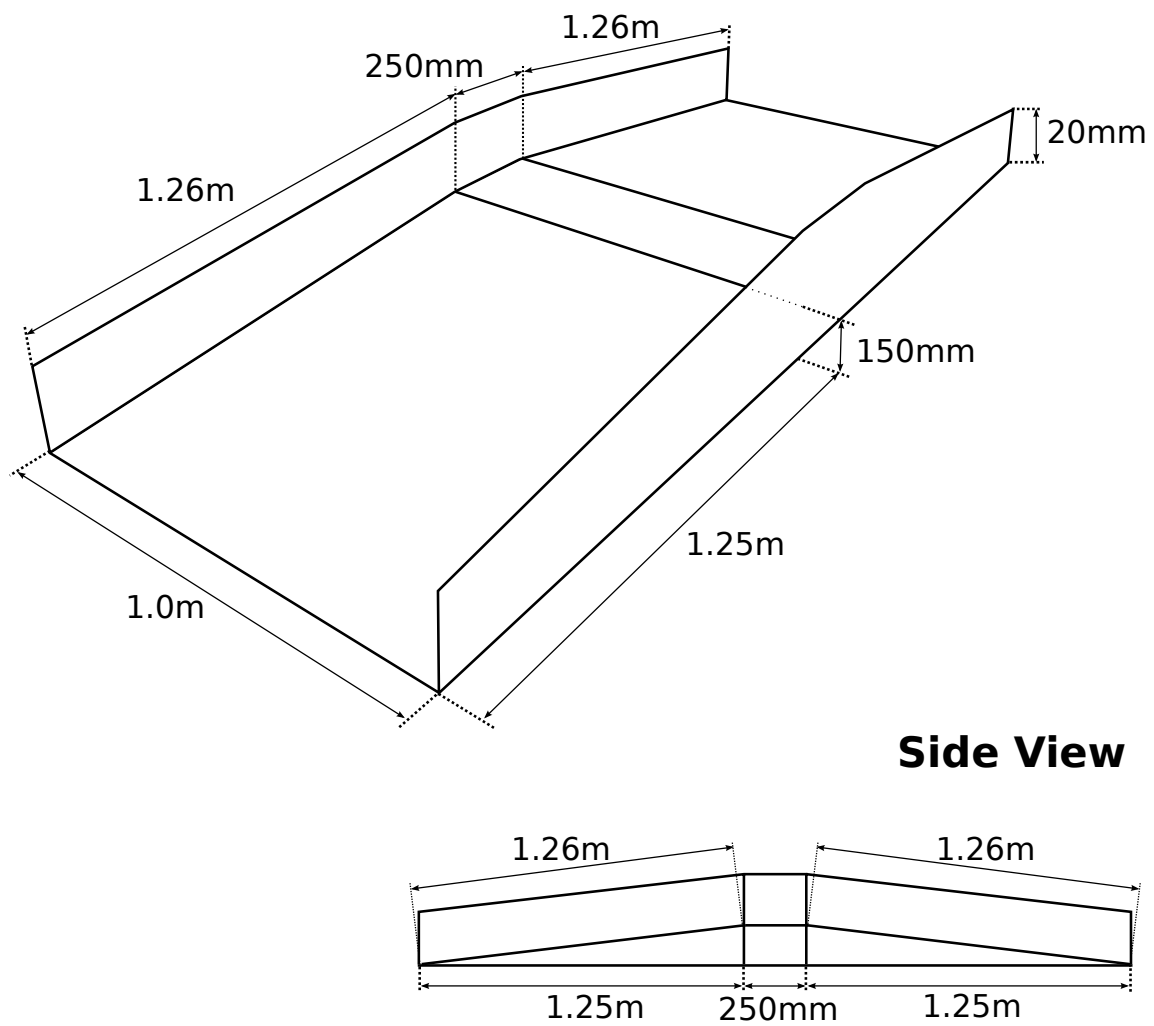

Figure 5: The ramp that cuts one of the corners of the arena, as seen in Figure 1.
- 3.2.1 The ramp has the dimensions and shape shown in Figure 5.